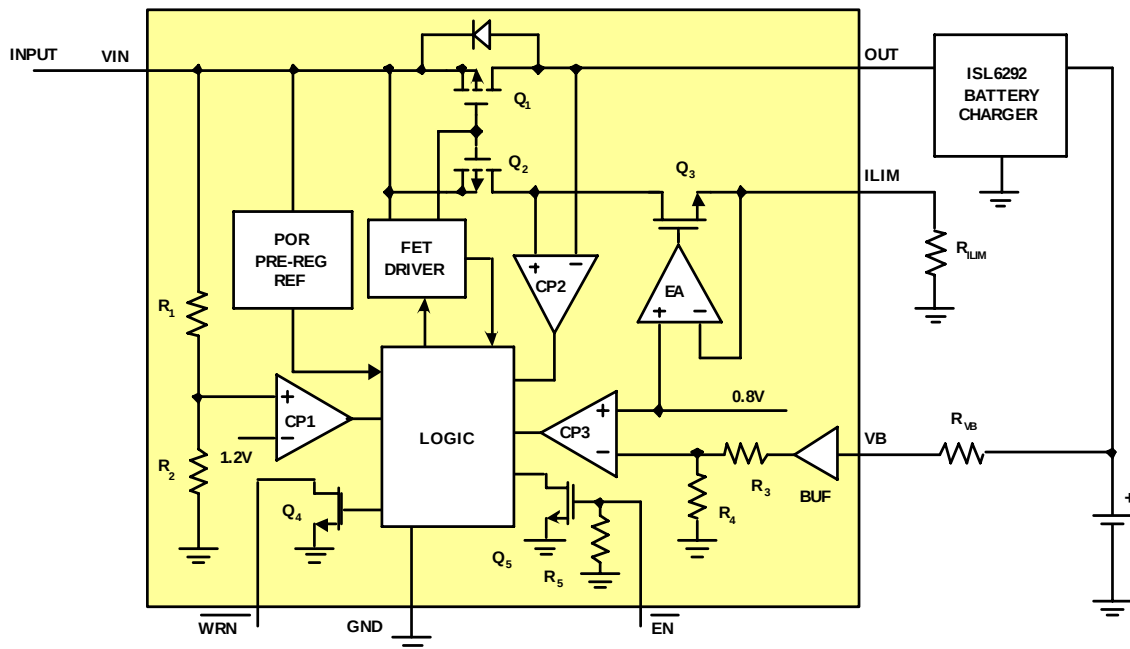
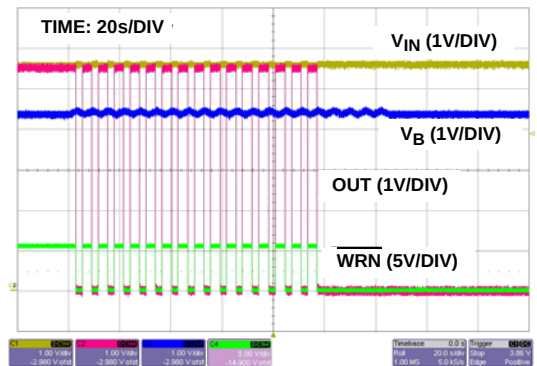

FIGURE 1. BLOCK DIAGRAM
FIGURE 7. BATTERY OVERVOLTAGE PROTECTION. THE IC IS LATCHED OFF AFTER 16 COUNTS OF PROTECTION. VB VOLTAGE VARIES BETWEEN 4.3V TO 4.5V
The input voltage is monitored by the comparator CP1 in the Block Diagram (Figure 1). CP1 has an accurate reference of 1.2V from the bandgap reference. The OVP threshold is set by the resistive divider consisting of R_1 and R_2 . The protection threshold is set to 6.8V. When the input voltage
The battery voltage OVP is realized with the VB pin. The comparator CP3, as shown in Figure 1, monitors the VB pin and issues an overvoltage signal when the battery voltage exceeds the 4.34V battery OVP threshold. The threshold has 30mV built-in hysteresis. The comparator CP3 has a built-in 180µs blanking time to prevent any transient voltage from triggering the OVP. If the OVP situation still exists after the blanking time, the power PFET is turned off. The control logic contains a 4-bit binary counter that if the battery overvoltage event occurs 16 times, the power PFET is turned off permanently, as shown in Figure 7. Recycling the input power or toggling the enable (EN) input will reset the counter and restart the ISL9212B.
The current in the power PFET is limited to prevent charging the battery with an excessive current. The current is sensed using the voltage drop across the power FET after the FET is turned on. The reference of the OCP is generated using a sensing FET Q2, as shown in Figure 1. The current in the sensing FET is forced to the value programmed by the ILIM pin. The size of the power FET Q1 is 31,250 times the size of the sensing FET. Therefore, when the current in the power FET is 31,250 times the current in the sensing FET, the drain voltage of the power FET falls below that of the sensing FET. The comparator CP2 then outputs a signal to turn off the power FET.